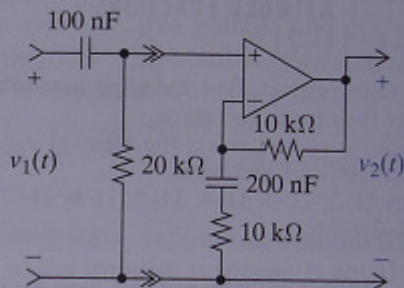

FIGURE P11-10
- 11-10 Find the voltage transfer function $T_V(s) = V_2(s)/V_1(s)$ of the cascade connection in Figure P11-10. Locate the poles and zeros of the transfer function.